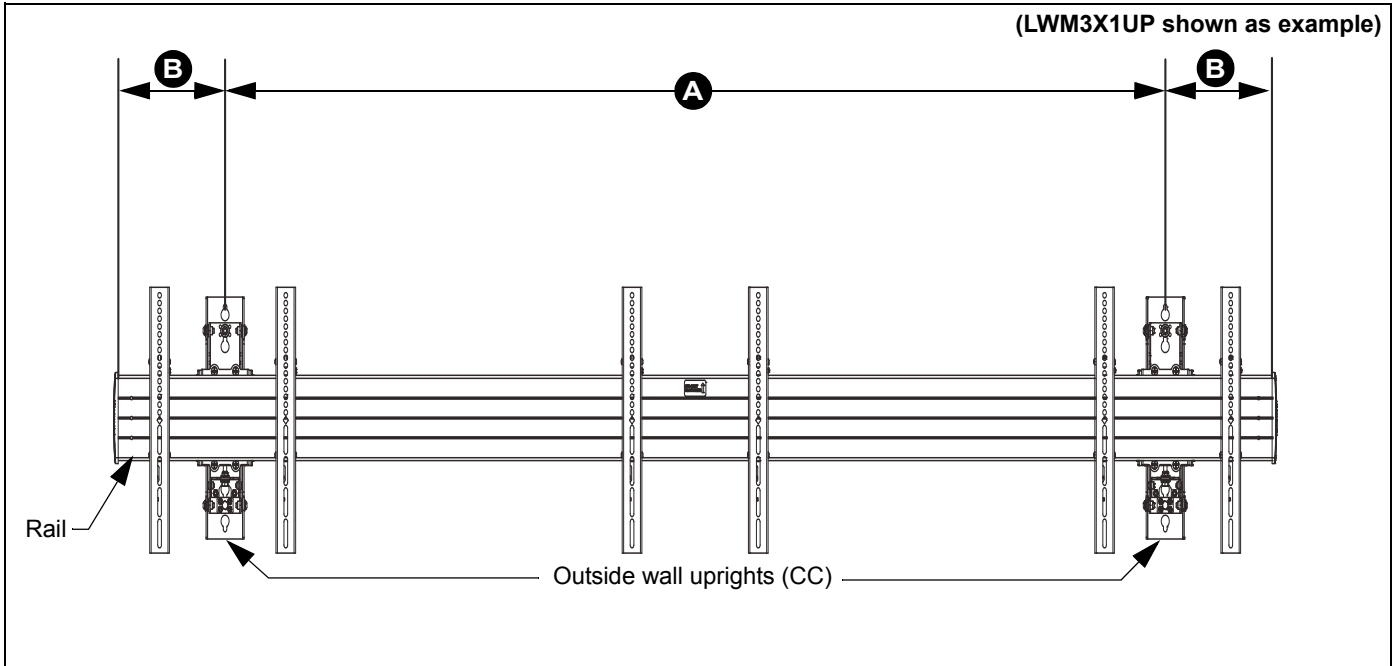
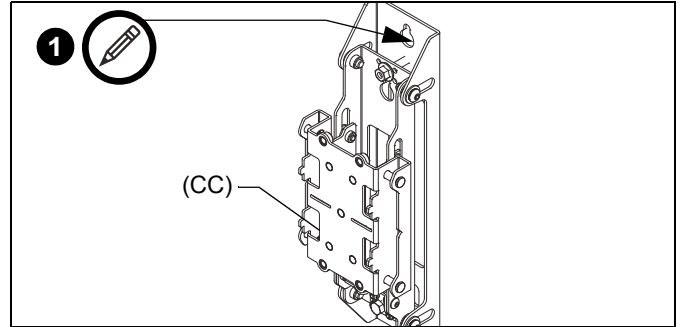

Figure 1
Figure 7
IMPORTANT ! : Reference **Wall Placement Information** section (See Figure 1) and Table 1.
1. Use the outside wall upright (CC) as a model to mark upper pilot hole placement for 2 outside wall uprights following wall placement information in Figure 1 and Table 1. (See Figure 7)